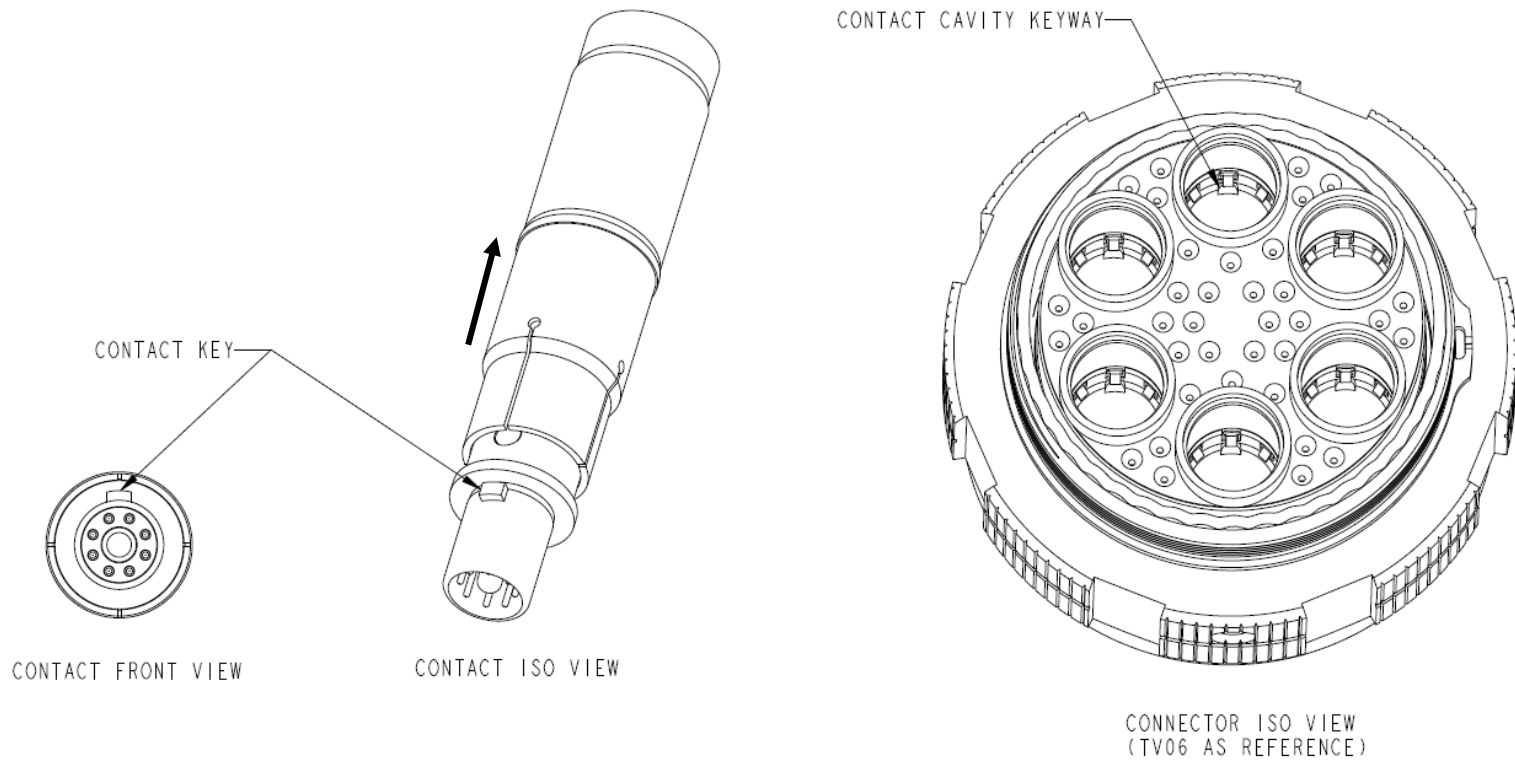

FIGURE 3
(see Figure 3)
- following the arrow shown in figure 3, ensure the integrated removal tool is in the fully back position prior to installation.